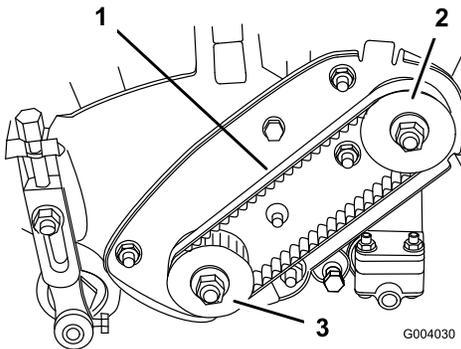

Figure 38
2. Check tension by depressing belt (Figure 38) at mid span of pulleys with 4 ± 1 lb. of force. Belt should deflect $3/16$ to $5/16$ inch (4.8 to 7.9 mm). If the deflection is incorrect, proceed to next step.